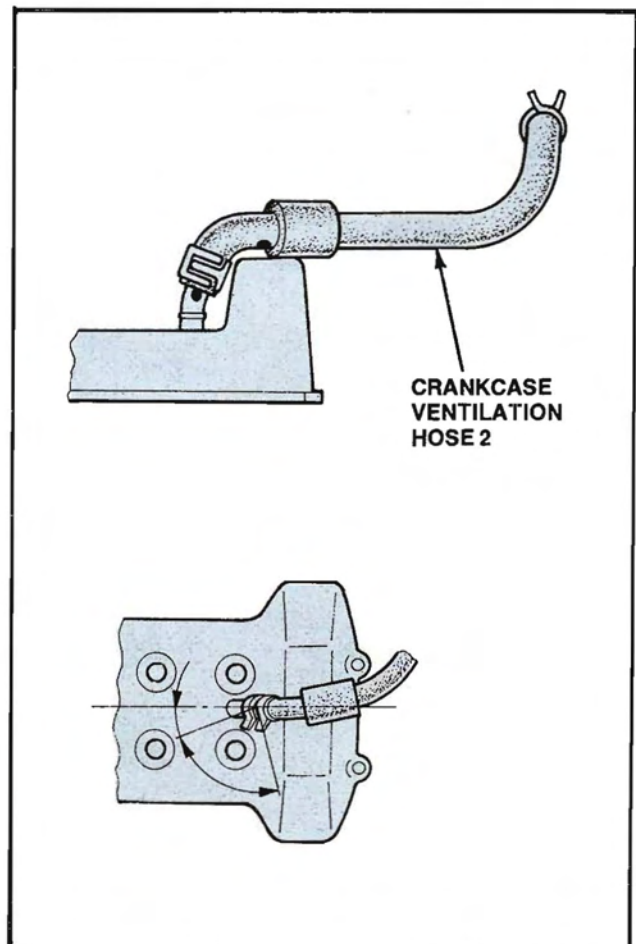

Figure 146. Crankcase Ventilation Hose Installation
5. Install the crankcase ventilation hose 2 onto the left cylinder head cover with its white paint mark toward the pipe (Fig. 146). Make sure that the clip holding the hose is moved to a position where it will not interfere with, or cause damage to the spark plug wire.